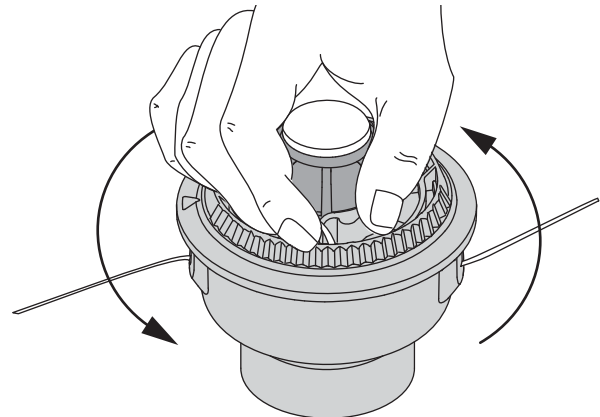

Fig. 16
8. Hold the outer spool. Wind the inner reel counterclockwise until approximately four (4) inches (102 mm) of line remain (Fig. 16). Avoid contact of bump knob while winding. Ensure bump knob is